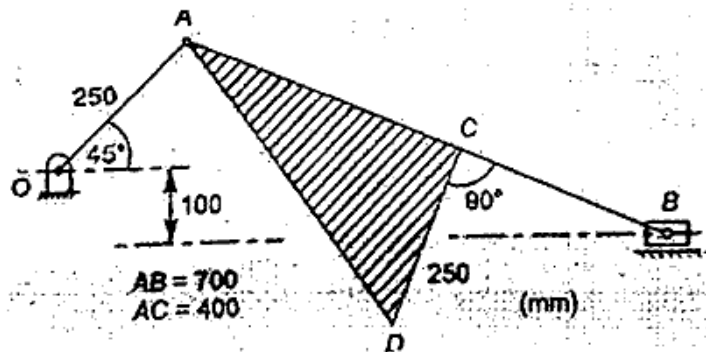

Fig. 3
2. (a) An offset slider crank mechanism is shown in Fig. 3. The crank is driven by the slider B at a speed of 15 m/s towards the left at given instant. Find the velocity of the offset point D on the coupler AB and the angular velocities of links OA and AB.